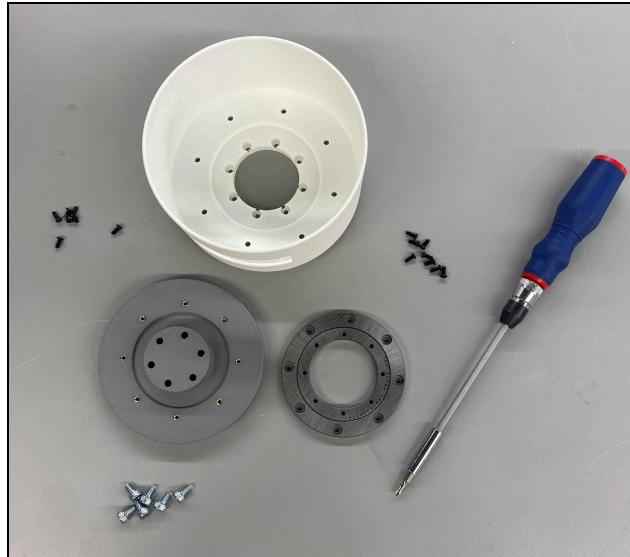

Figure 36: J4 Materials
- Gather the J4 Motor Cover, J4 Cross Roller Bearing, and J4 Mushroom Cap, along with eight M4 x 6mm screws, twelve M2.5 x 6mm screws, and a screwdriver compatible with M2.5 screws. See Figure 36.